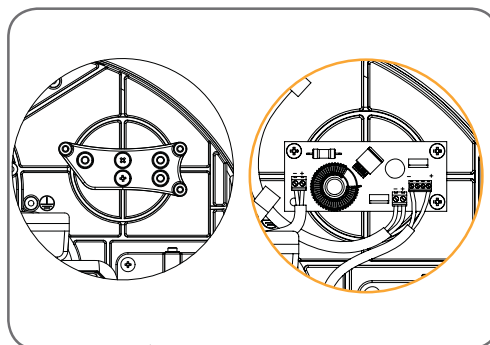

Fig 64
7. Fix the Charger Board Holder on where the transformer is removed from. Fix the charger on to the charger holder (**Fig. 64**)